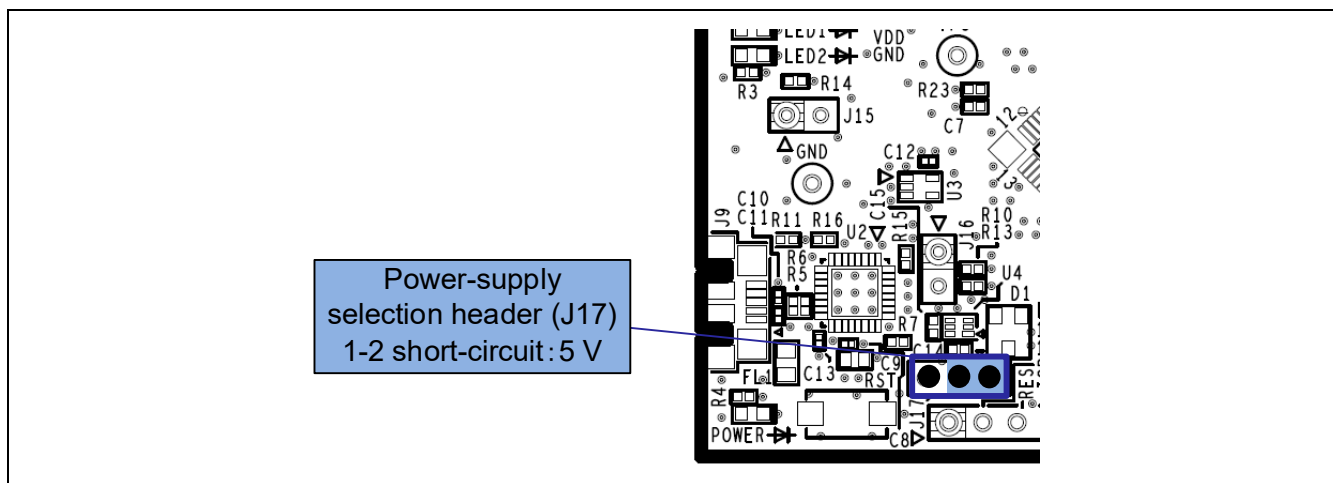

Figure 5-5 Setting of the Header to Select a 5-V Power Supply (Top Side)
- 1-2 of J17 being short-circuit selects a 5-V power supply. This is the default setting as shipped (Figure 5-5).